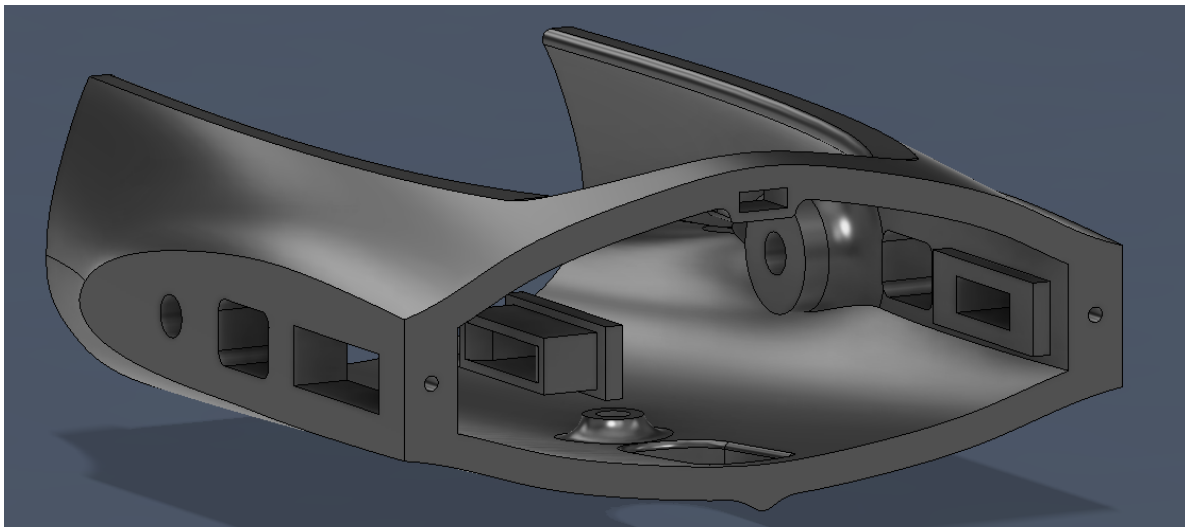

Figure 7: Fus (3) and Pin 1A assembly
Apply a small amount of glue to the outer surfaces of both **Pin 1A** parts. Align each pin with the square slots on **Fus (3)** and press them firmly into place until fully seated, as seen in Figure 7. Hold briefly to ensure proper adhesion and alignment, and allow the glue to set before proceeding with the next assembly step.